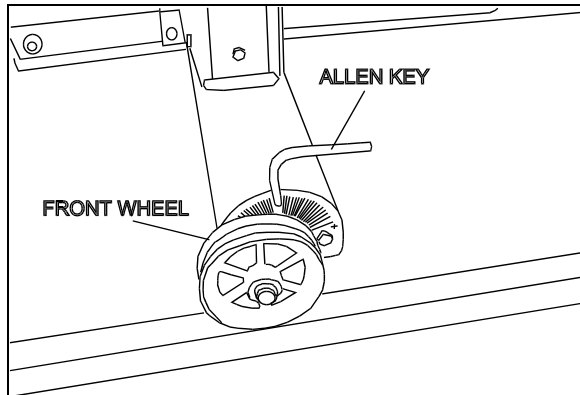

FIGURE 31: ADJUSTING HOOPY 100 LEVEL 06498
6. Using an Allen key on the front wheel, level Hoopy 100 aligner until spirit level bubble is centered (Fig. 31 & 32).